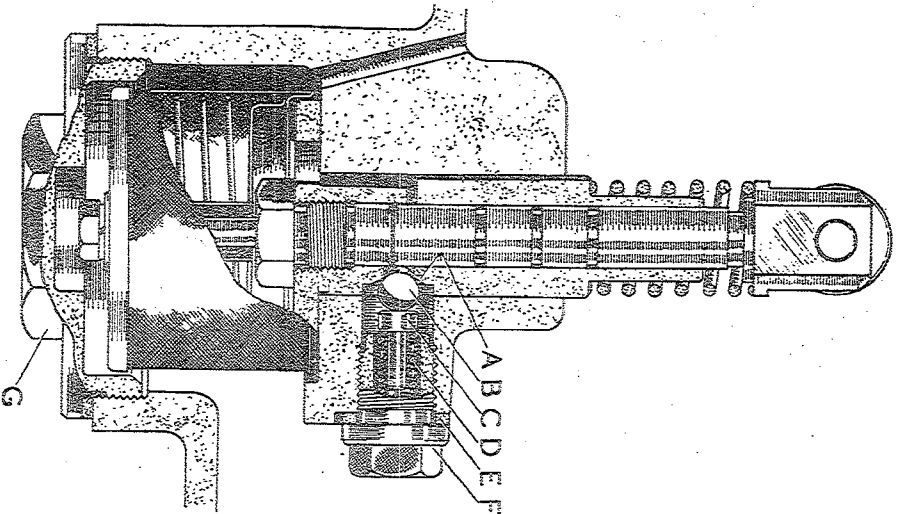

Fig. 11. The oil pump
1. Remove the drain plug G and drain off oil (Fig. 11).
7. The pump valve plug F can now be unscrewed with a box spanner, and the spring D, plunger C and ball B removed (Fig. 11).
Re-assembly is the reverse of the above operations, but ensure that the valve plug is well tightened on to the soft copper washer E (Fig. 11), which should be replaced by a new one if damaged in any way.